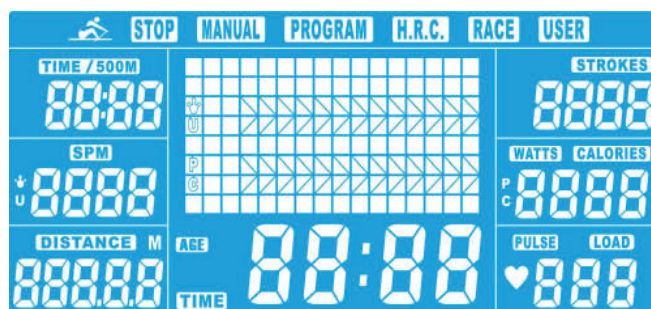

Figure 1
1. Assemble the rear supporting bracket set (13) to the sliding beam (19), using a fixing plate (95), three spring washers (74) and three allen bolts (87) - see figure 1.
*All segments will be displayed on the screen (fig. 1). Now you will be taken to the user menu (USER).*